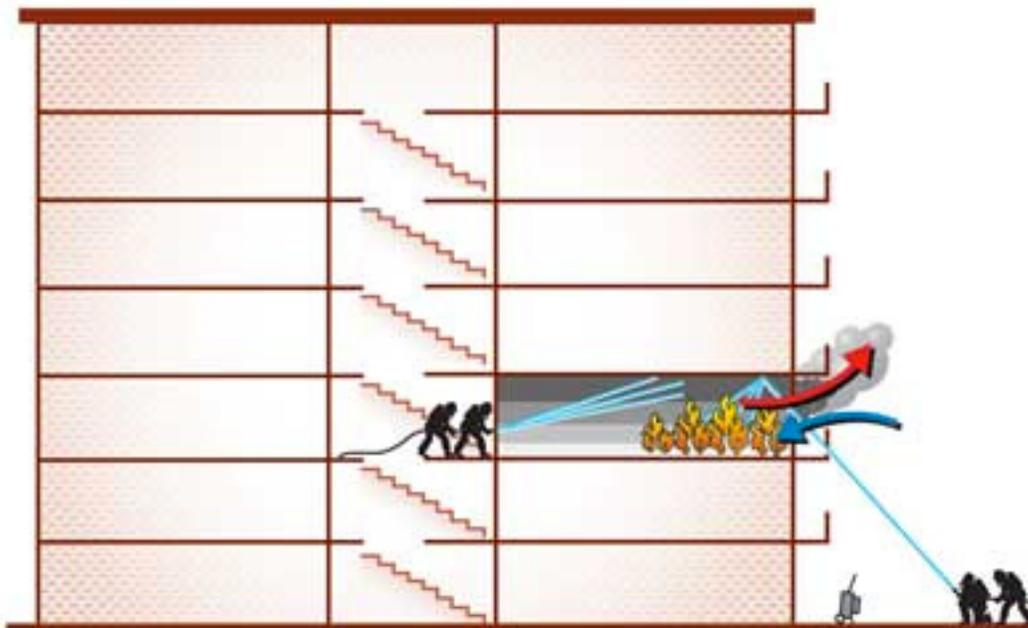

Figure 3. Gas Cooling and Transitional Attack
3. Gas cooling from the entrance door. As soon as the attack team reaches the entrance door, it applies a fog pattern stream from the outside. The door remains open just for the short time the nozzleman needs to apply water. Short pulsing has proven to have a limited reach. In underventilated fire conditions with no clear layer at the bottom, disrupting the thermal balance should not be an issue; therefore, a narrower cone, deeper reach, and longer and oscillating pulsing would be more effective (Figure 3).